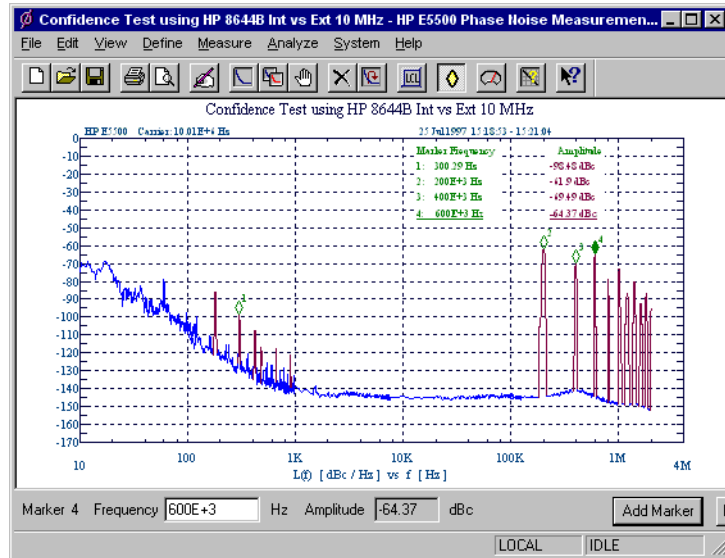

Figure 15-6 Add and Delete Markers
- 2 To remove the highlighted marker, click the **Delete** button. You may add as many as nine markers. See Figure 15-6.